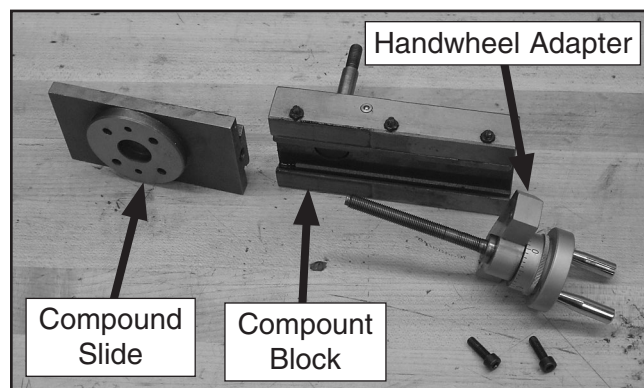

Figure 6. Compound slide disassembled.
5. When the sliding base no longer moves, unscrew the two cap screws near the handwheel to separate the handwheel adapter from the compound block, then slide the base out of the compound ways (**Figure 6**).